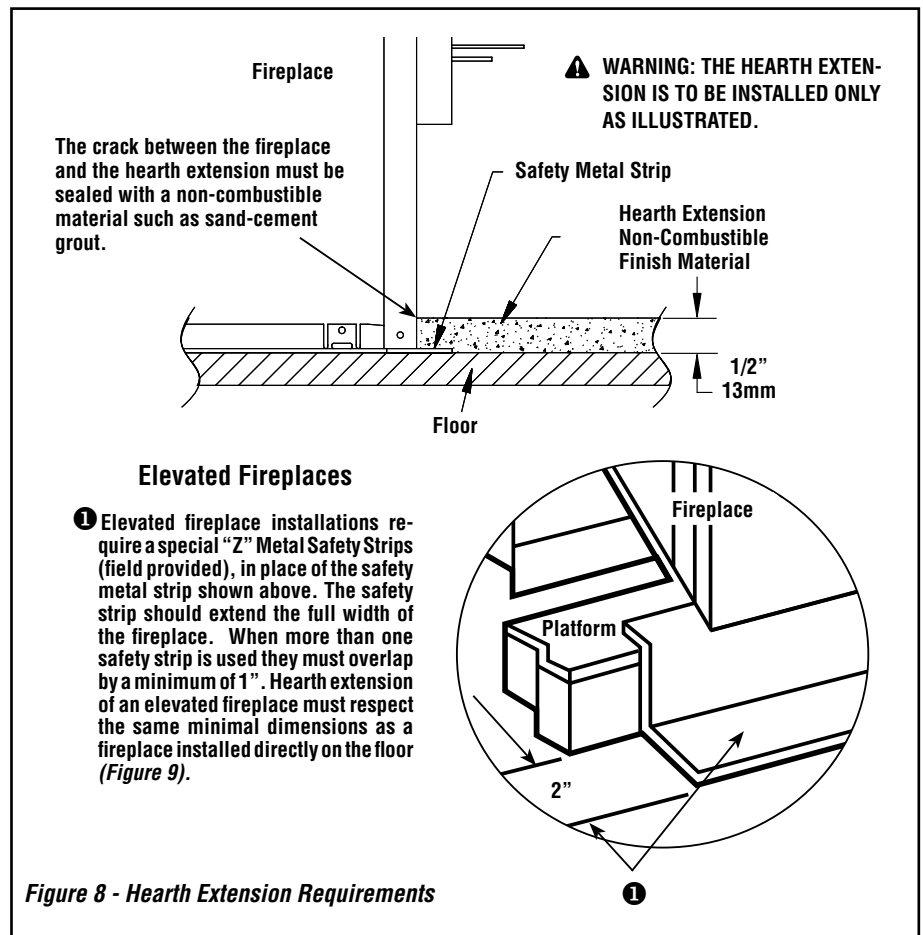

Figure 8 - Hearth Extension Requirements
The construction of the framing, facing, and mantel must be in accordance with the standards and the following illustrations (**Figures 8 and 9**):
- C. Frame the fireplace with vertical studs at the sides of the fireplace running from floor to ceiling (see **Figure 8**). If combustible facing is to be used, position the studs back, from the front edge of the fireplace (a space that is the thickness of the facing material, so that the facing can be installed flush with the fireplace facing). Frame headers between the vertical studs only as follows:
The MONTECITO-B™ fireplace may be installed directly on a combustible floor. The supplied safety metal strip must be positioned as follows: One half under the front of the fireplace and the other half must extend on the floor over which the hearth extension will be built (see **Figure 8**).